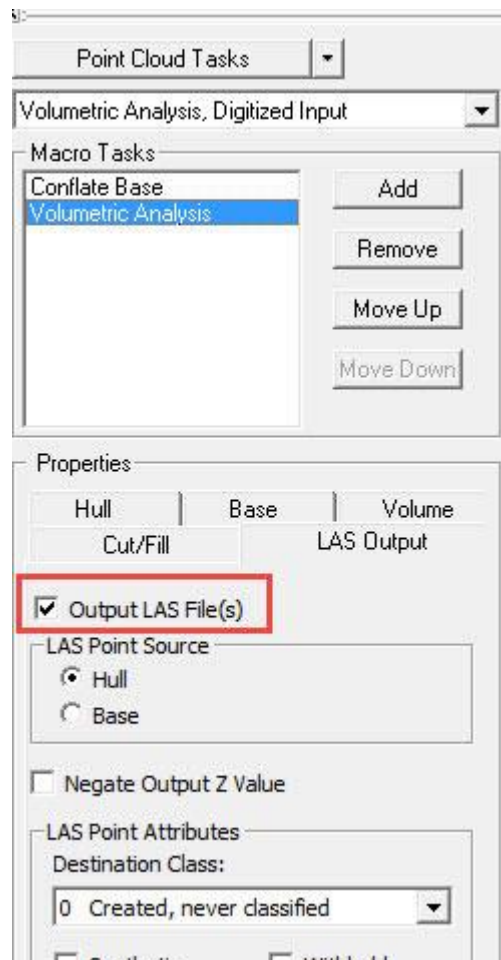

Figure 4: Creating an output Volumetric LAS file
One other change you may want to make is to output a volumetric results LAS file (this option requires an Advanced license). This option is located on the “LAS Output” tab of the “Volumetric Analysis” Point Cloud Task (see Figure 4). Simply check the “Output LAS File(s)” option. Make sure you press the “Apply” button at the bottom of the PCT dialog if you make any parameter changes!
- Cut-Fill LAS – This is a LAS file of the volume. It is added if you selected the LAS option of Figure 4 (again, an Advanced license is required for this output).